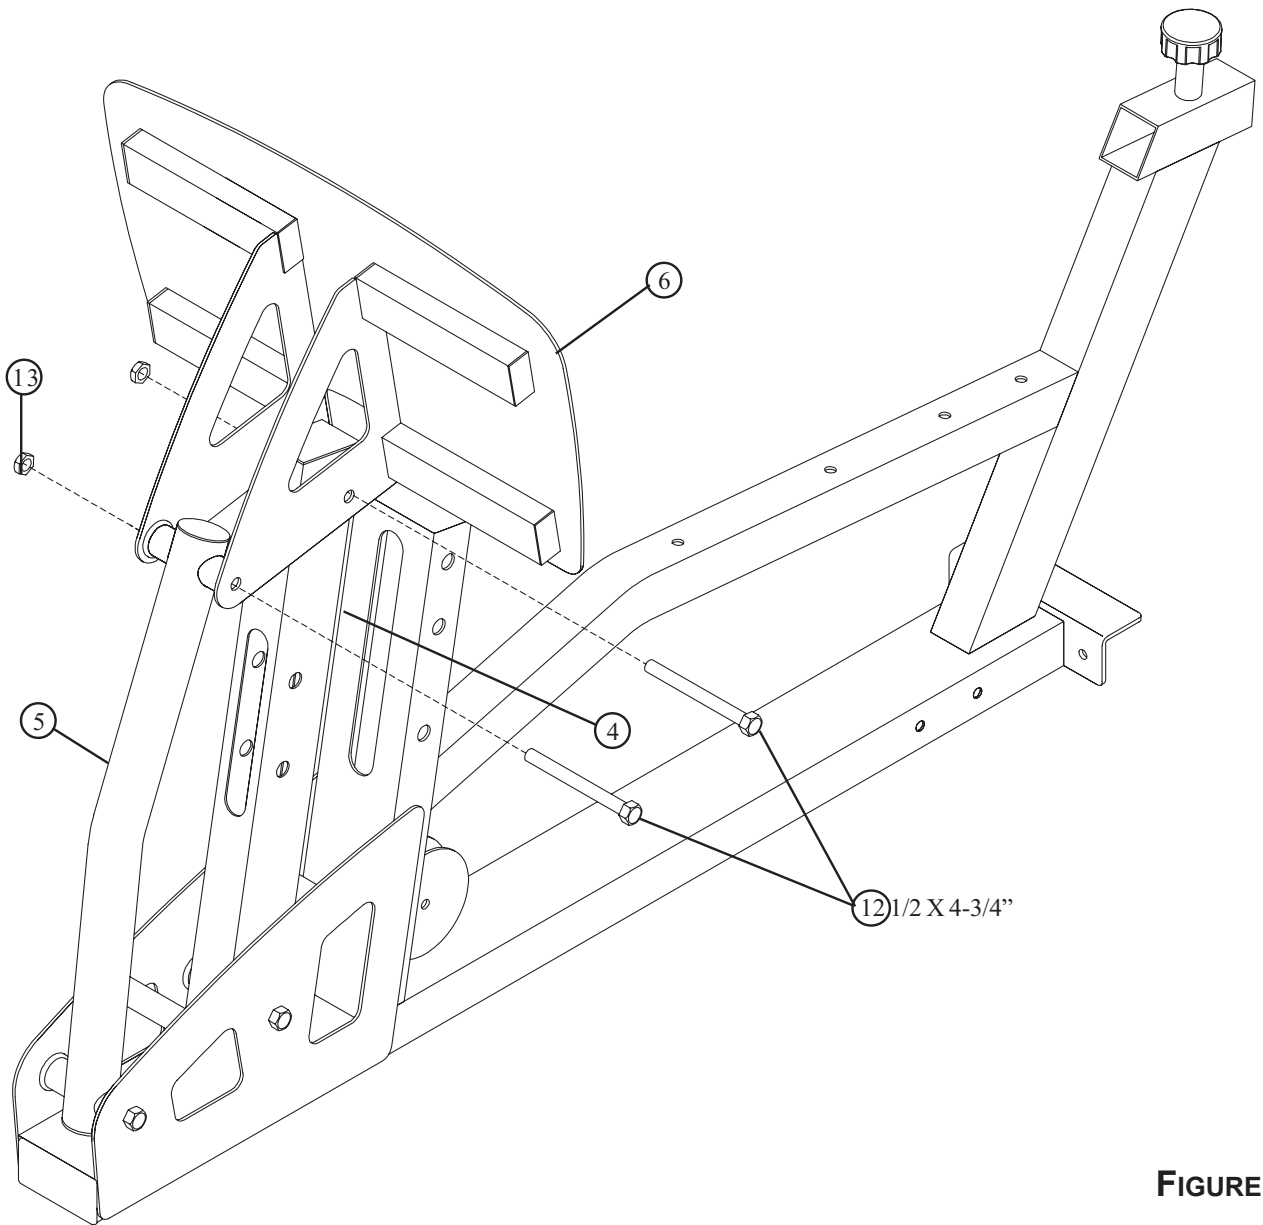

FIGURE 4
Securely assemble the Footplate (6) to the Second Arm (5) and the Main Arm (4) using two 1/2 x 4-3/4" Bolts (12) and two 1/2" Lock Nuts (13). See Figure 4.